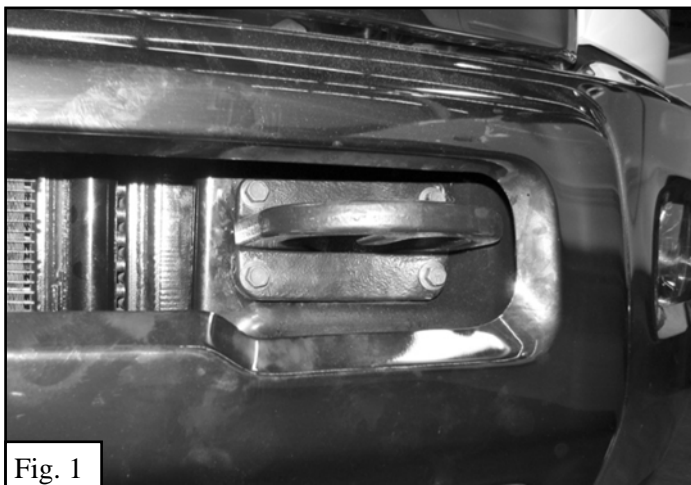

Fig. 1
2. Starting at the front of the vehicle, determine if the truck is equipped with or without tow hooks. **See Fig. 1.**